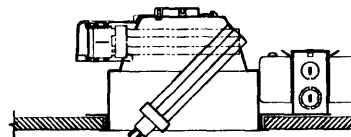

Fig. 8
3. Install lamp in fixture by inserting the tip of the lamp through the reflector hole opposite the socket. Then align lamp base with socket and snap into position. (See Fig. 8)
4. Install lamp in fixture by inserting the tip of the lamp through the reflector hole opposite the socket, then align lamp base with socket and snap into position (See Fig. 8).